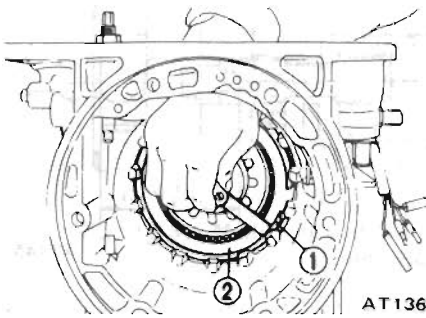

Fig. AT-70 Measuring ring to plate clearance
2. After low and reverse brake has been assembled, measure the clearance between snap ring ① and retaining plate ②. Select proper thickness of retaining plate to give correct ring to plate clearance. See Figure AT-70.